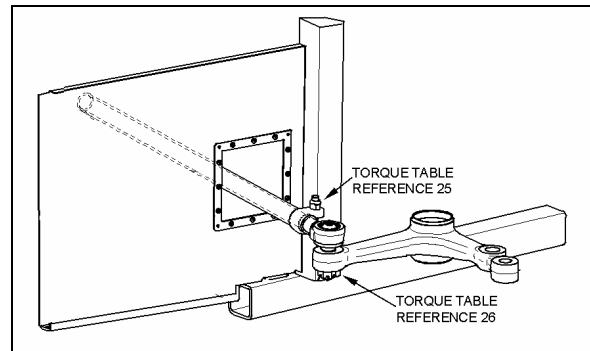

FIGURE 12: TORQUE SPECIFICATION
6. Unscrew nut until bell crank or idler arm starts to turn by the application of 1 to 3 pounds load (Fig. 12).